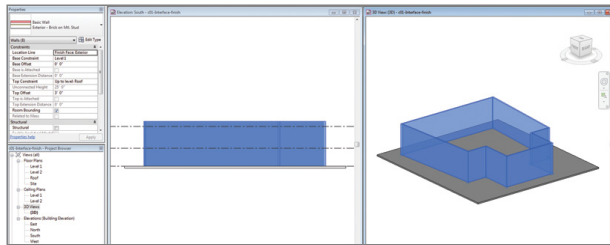

FIGURE 1.19 Tiled windows show the result of modifying the top constraints of the walls.
6. In the Properties palette, find the parameter Top Constraint. Change the value to Up To Level: Roof, and then click Apply. Notice how the walls all change height in both the 3D view and the elevation view. Also note how the offset is maintained relative to the level of the top constraint (Figure 1.19).